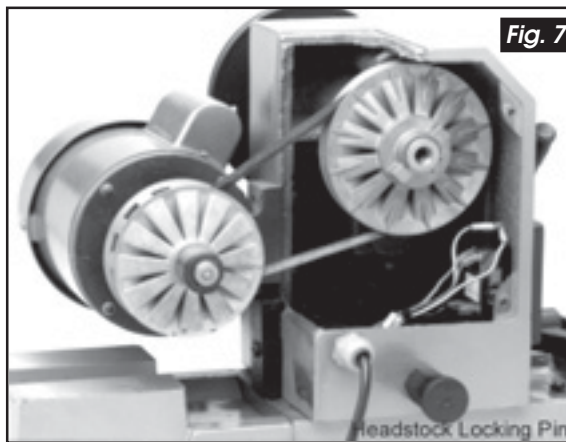

Fig. 7
Drive Belt (see fig. 7)
To protect the motor during transit, the headstock is rotated and locked at 90 degrees from its normal position, i.e. with the motor over the lathe bed. Pull out the Headstock Locking Pin (item 35, and see Fig. 7), against spring pressure, allowing the Headstock to be rotated through 90 degrees so that the spindle faces the tailstock. Release the locking pin which will reassert itself locking the headstock in the "in line" position.